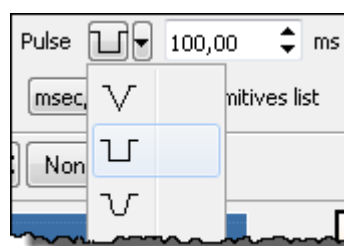

Fig. 12-32. Pulse shape
- In the drop-down list **Pulse**, select the desired pulse shape (Fig. 12-32).